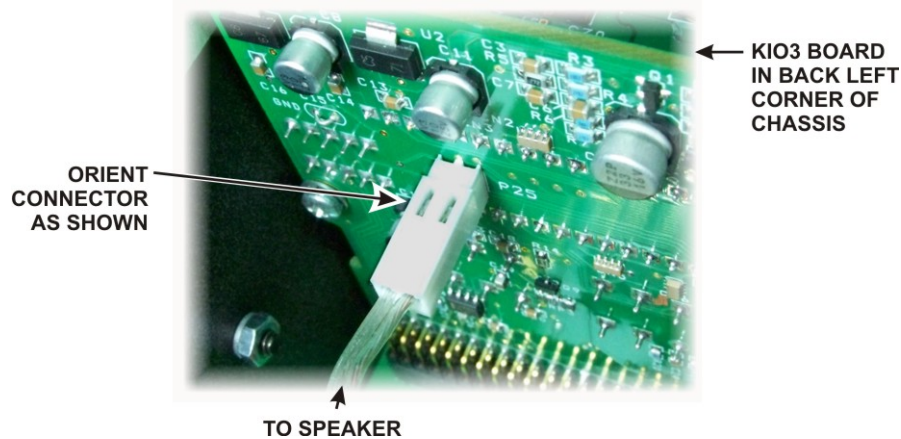

Figure 11. Connecting Speaker Cable.
- Hold the top cover above the K3, route the speaker wire under the stiffener bar and plug it into P25 on the KIO3 board at the left rear of the K3 as shown in Figure 11.